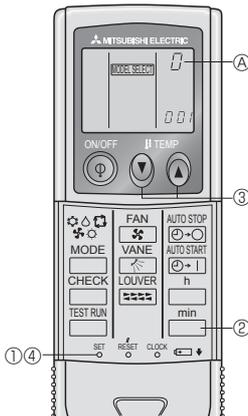

Fig. 6-4
3) Assigning a remote controller to each unit (Fig. 6-4)